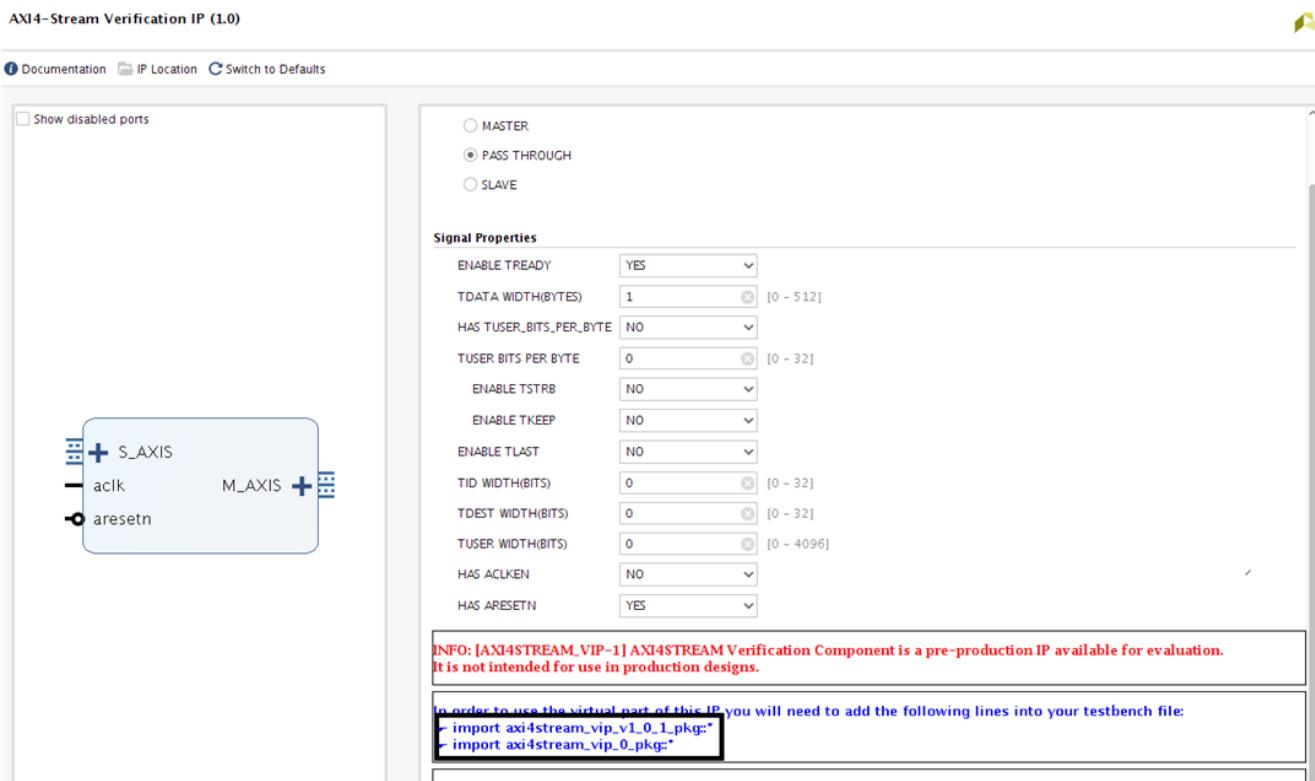

Figure 6-1: Test Bench Package Codes
1. Import the two required packages: `axi4stream_vip_v1_0_0_pkg` and `<component_name>.pkg`. The `axi4stream_vip_v1_0_0_pkg` includes agent classes and its subclasses for AXI4-Stream VIP. For each VIP instance, it has a component package which is automatically generated when the outputs are created. This component package includes a `typedef` class of a parameterized agent. Xilinx recommends importing this package because reconfiguration of the VIP has no impact on the test bench. Figure 6-1 shows the AXI4-Stream VIP with the specific packages to copy into your test bench.
2. Copy the code snippet into your test bench: see Figure 6-1